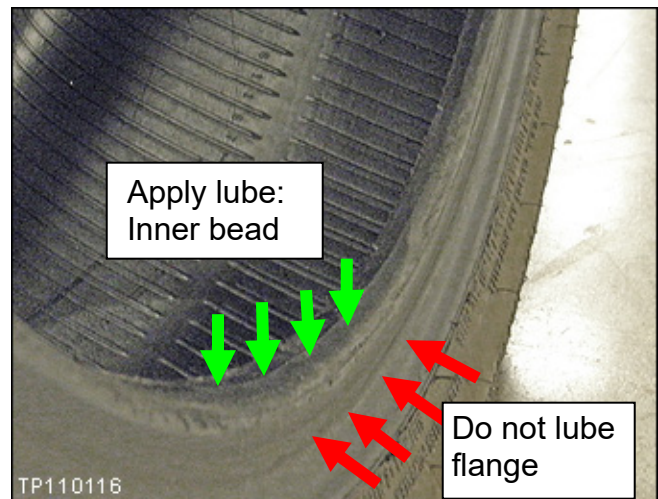

Figure 1
3. Apply an approved tire lubricant to the tire and wheel in the areas shown in Figures 1 and 2.
- b. Re-apply lubricant as shown in Figures 1 and 2 on page 2.
2. Re-apply lubricant as shown in Figures 1 and 2 on page 2.